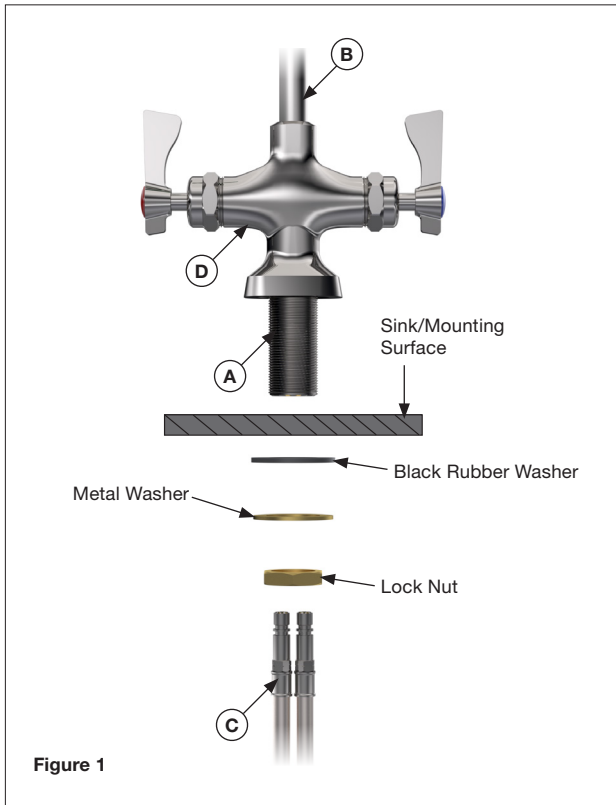

Figure 1
13. Determine the position on the wall for the wall bracket brace (J), making sure it is near the top of the riser pipe (G).
15. Install the head of the support rod (K) around the riser with the two supplied screws.
16. The pre-rinse spray head (L), hose (M), and spring (N) have been assembled at the factory to save time.
18. Loosen the spray head hook (O) and center it on the riser pipe. Tighten when it is in place.
19. Install faucet spout (F) onto add-on faucet body (H) (Figure 1).